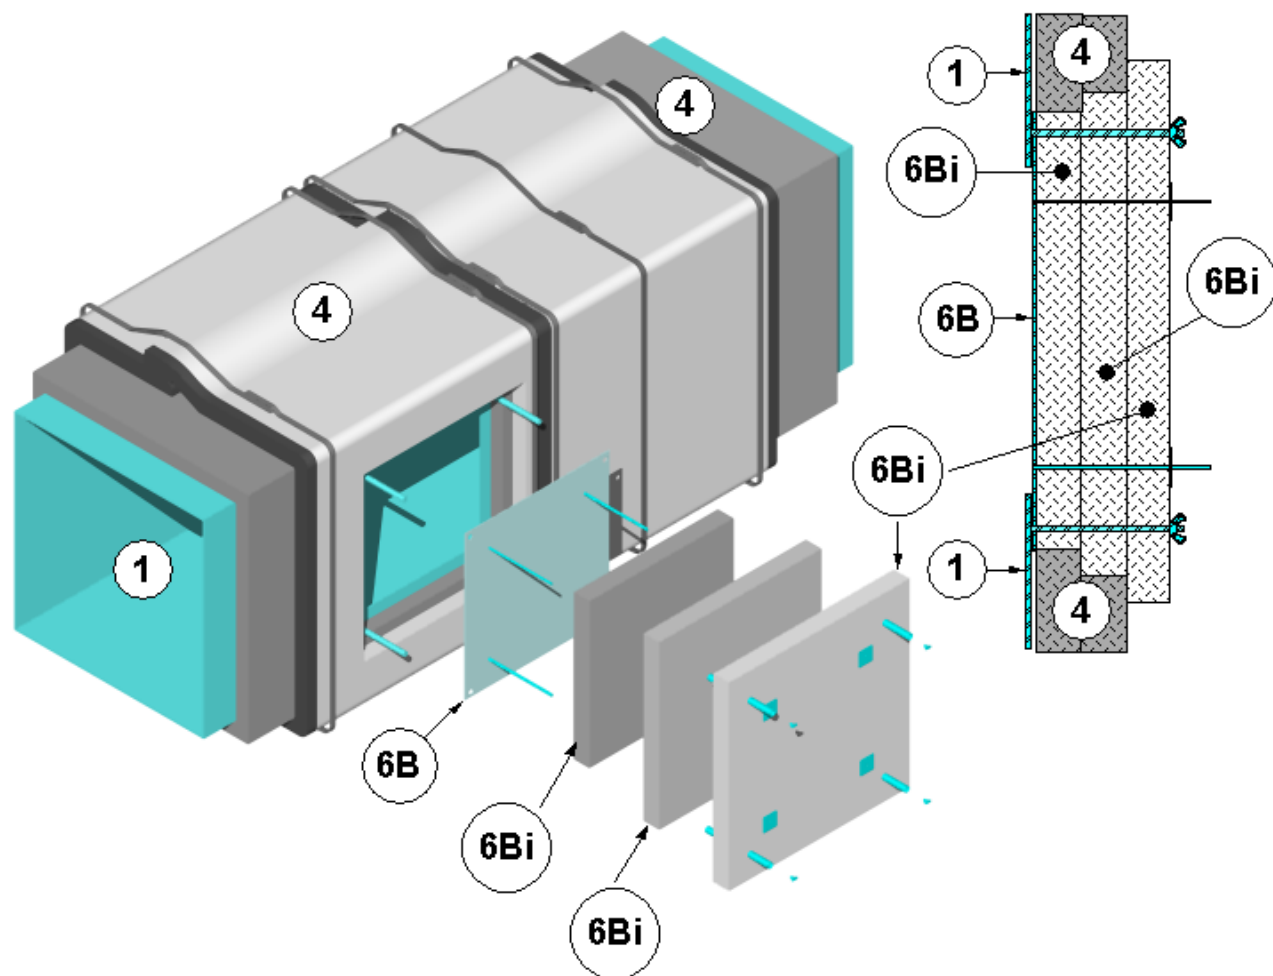

Figure 3 – Field Fabricated Access Door
Refer to Figure 3. Mark a clean-out access opening location on the insulated grease duct (Item 1) at its mid-height along the horizontal section. Cut an opening in the duct insulation (Item 4) with dimensions,
ACCESS INSULATION: Refer to Figure 3. Apply three (3) layers of access insulation over the field-fabricated access door (Item 6B) as follows. Cut the first piece of access insulation a minimum 1 in. (25 mm) larger than the clean-out access opening and install it over the duct insulation pins, the four (4), 3/8 in. (10 mm) diameter, threaded, steel rods, and cover the field-fabricated access door (Item 6B). Press the first piece of access insulation flush over the field-fabricated access door (Item 6B). Compress and abut the cut edges of the first piece of the access insulation against the cut edges of opening in the duct insulation (Item 4). Cut a second piece of access insulation 1 in.